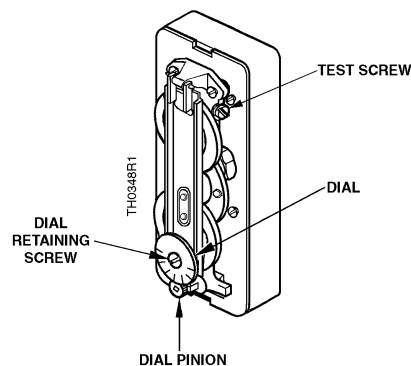

Figure 13. Direct Acting D Thermostat Details.
4. Loosen test screw (see Figure 13) using a screwdriver, 1/2 turn counterclockwise.
7. If the dial reading and room temperature do not agree, loosen dial retaining screw with a screwdriver. (See Figure 13.)